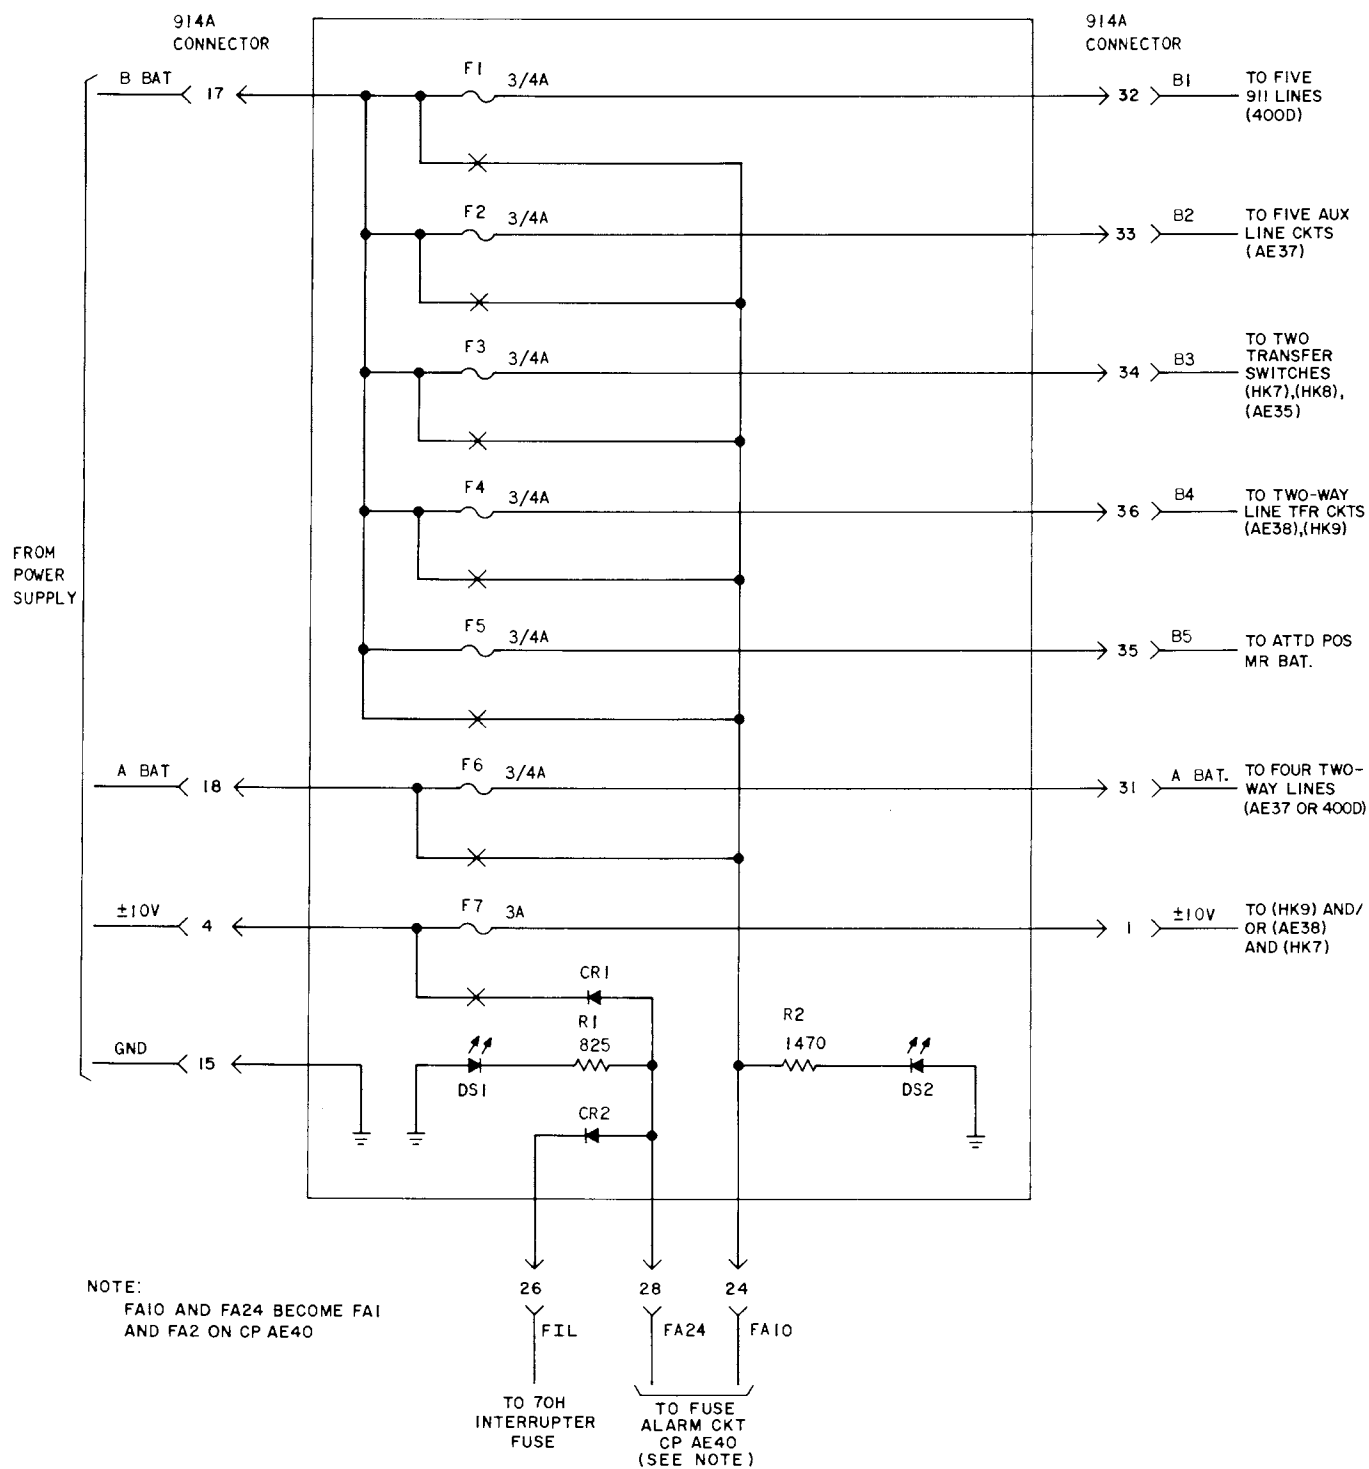

Fig. 6—Condensed Functional Schematic of Circuit Pack KS-21651,L2 (Fuse Board Assembly)
3.03 The KS-21651,L2 (Fig. 6) provides all the fusing for the J53053A,L1 except the interrupter fusing, which is separately mounted on